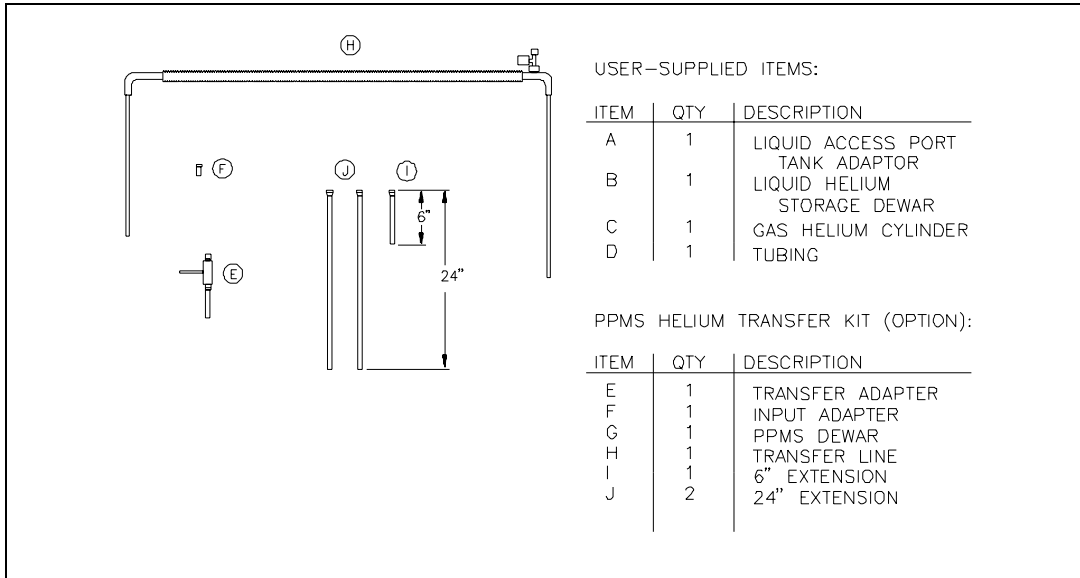
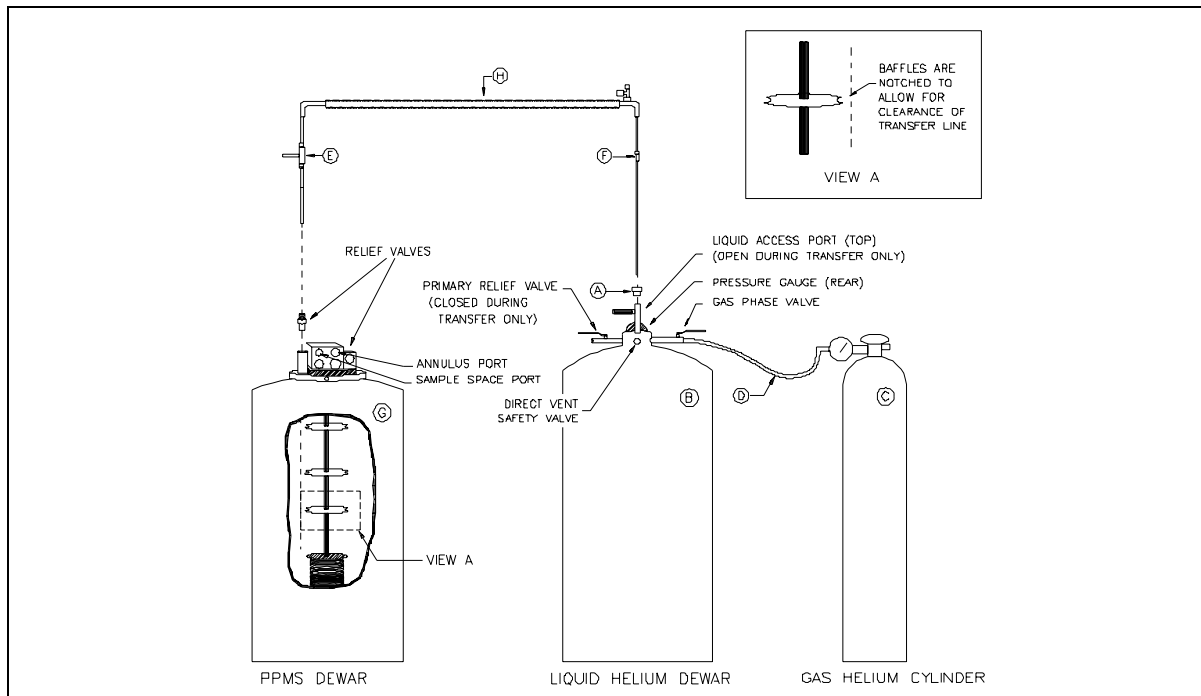

Figure 1. Helium Transfer Equipment, some listed items are shown in Figure 2.
Figure2. Helium Transfer Configuration
Refer to **Figure 1** and **Figure 2** for required equipment and transfer arrangement. The equipment shown is from the helium transfer kit provided by Quantum Design. Your own equipment may vary slightly.
1. Make sure that both the large (annulus port) and small (sample space port) pumping lines are connected from the probe to the Model 6000. These are the two top ports on the probe head (**Figure 2**).
10. Remove either of the dewar relief valves. These are the valves located on either side of the probe head (**Figure 2**).
- b. Select item 1, **Interactive Control**, and press **Enter**.
- c. Select item 0, **Fill Dewar**, and press **Enter**.